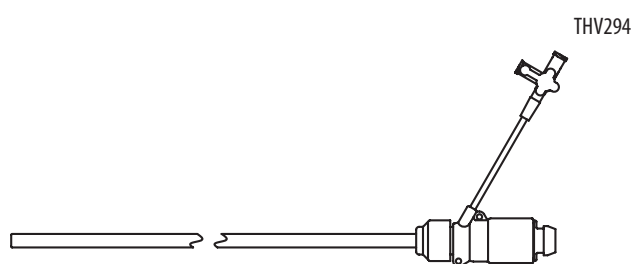

Figure 1
- a) an expandable sheath (eSheath) (Fig 1) that provides access into the target vessel while maintaining hemostasis and temporarily enlarges its diameter to allow for passage of a device.